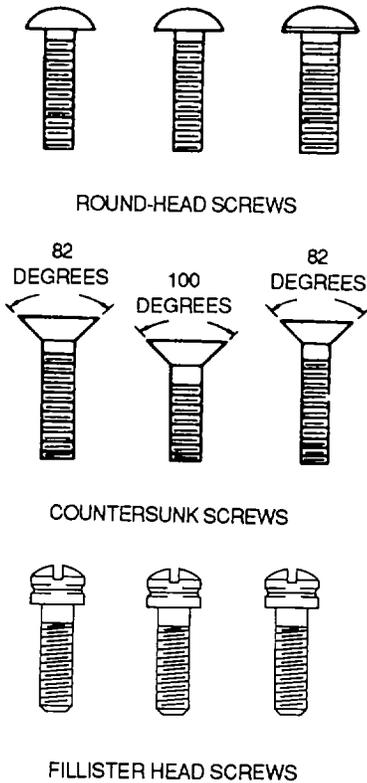

Figure 2-38. Machine Screws
(1) Round-head screws. Round-head screws, MS35206, MS35214, MS35218, MS51957, and MS35207, MS35215, MS35219, MS51958 are general purpose screws available in low carbon steel, brass, and corrosion-resistant steel. The MS35206, MS35214, MS35218, MS51957 are coarse thread screws and MS35207, MS35215, MS35219, MS51958 are fine thread. Both have recessed heads and a class 2 thread fit. The AN508 brass screw is designed for electrical use only, and is available only with a slotted head.
(2) Countersunk screws. The MS35190, MS51959, and MS35199, MS35203, MS51960 countersunk screws correspond to round-head screws, MS35206, MS35214, MS35218, MS51957, and MS35207, MS35215, MS35219, MS51958, in material and application. The countersunk type, as shown in figure 2-38, is a low carbon steel screw.